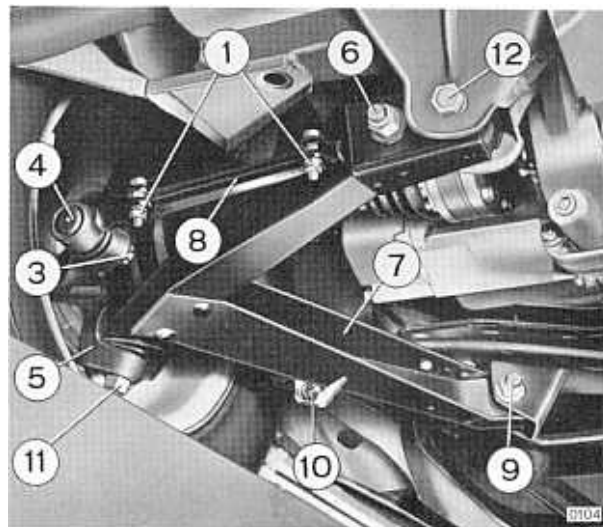

Fig. 07 2/12 - Arm and rear transverse rod
- Unscrew the nuts (1) holding the clamps, withdraw the split pin, unscrew nut (3) and use extractor 88062036 (see fig. 07 2/13) to detach the ball joints (4) from the swivel (5).